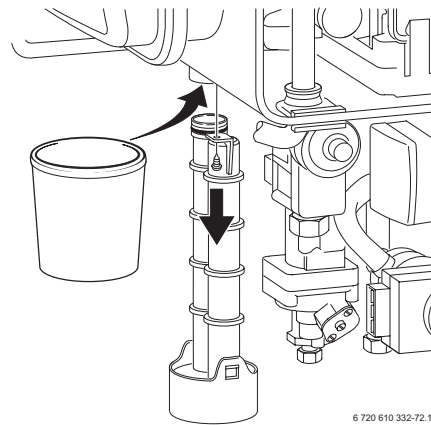

Fig. 52
- Unscrew condensation trap and place suitable container underneath. Refer to fig. 52.
In order to prevent spillage of condensate, the condensation trap should be completely removed, (see page 35, fig. 52).